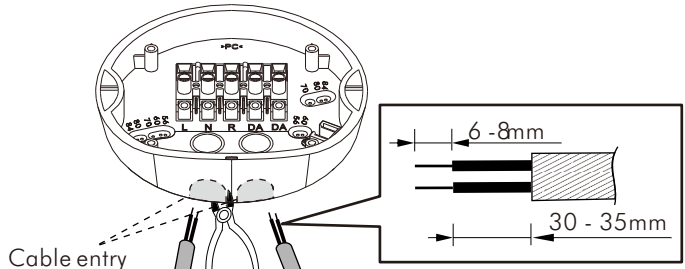

FIG.8
- 3.4.1.4 The cables can be fed through either from side or bottom sides. To feed AC power cables through the side entry holes, please use the cutting pliers to break the cable entry knockouts on the side of junction box, then insert cables into junction box and feed through it. Strip off 6 - 8mm of cable sheathing for wiring (See FIG.8).